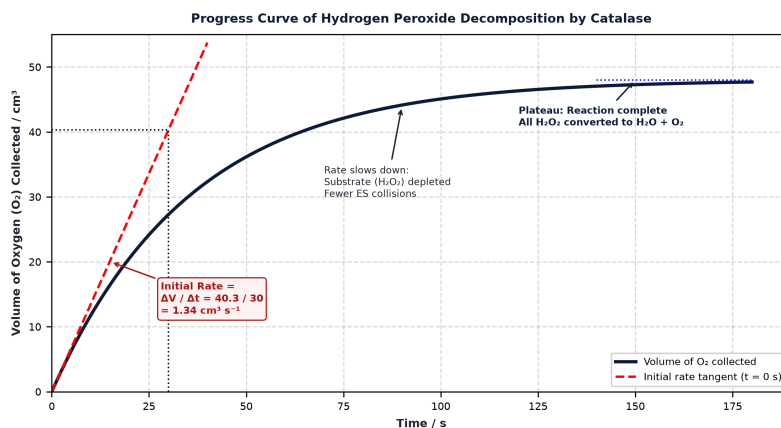

Fig. 3.3: Volume of oxygen gas evolved over time during catalase decomposition of hydrogen peroxide.
A student investigated the decomposition of hydrogen peroxide (H_2O_2) by intracellular catalase extracted from yeast. The volume of oxygen gas (O_2) evolved was measured every 10 seconds using a gas syringe. Fig. 3.3 shows the progress curve obtained.
- (b) With reference to Fig. 3.3, determine the initial rate of reaction at $t = 0$ s, showing your working and stating appropriate units. [2]